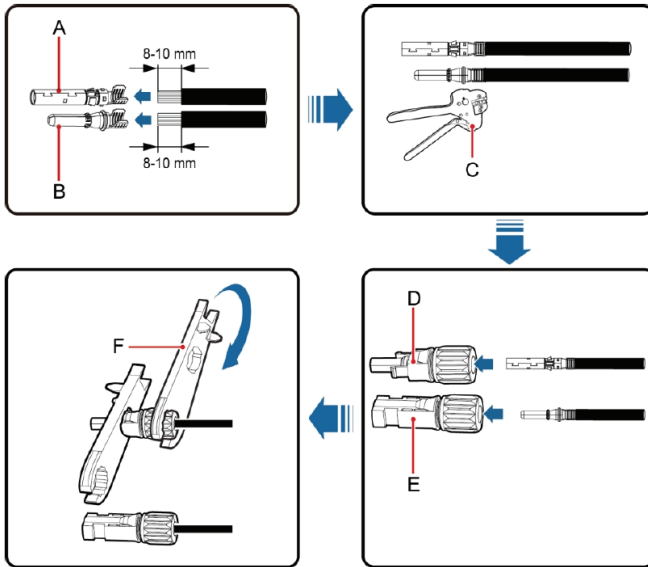

Figure 17 MC4 DC connector and PV string connection
(1) Before connecting PV string to inverter, ensure proper measures against lightning and short circuit have been taken;
(2) Connect the output cables of solar modules to the DC connector of inverter as Figure 17 shows. Remove the isolation layer of the DC cable for about 8-10mm. Insert the conductor part into the appropriate position of the connector, crimp the MC4 DC terminal and tighten the nut with a torque of 2.5-3Nm. Ensure the poles of solar modules are correctly and well connected with the connectors